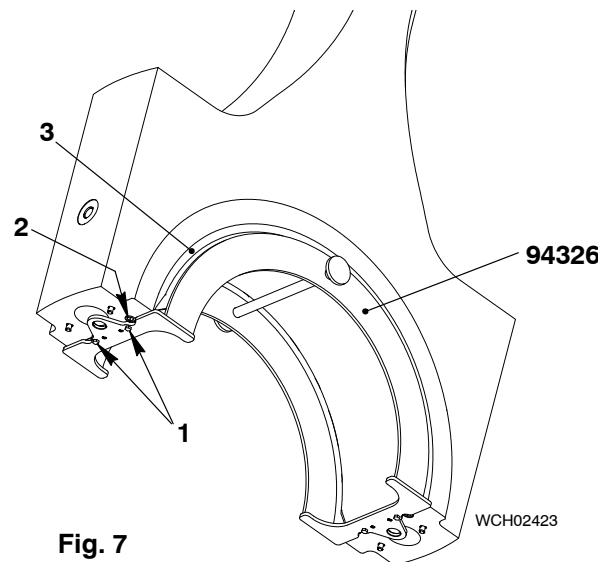

Fig. 7
- 2) Attach the console frame (94326, Fig. 7) to the bearing shell (3) with the four screws (1).
- 5) Remove the two screws (2, Fig. 7).